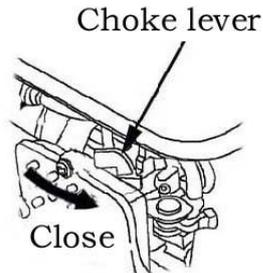

Fig. 7
2. Push the choke lever to the CLOSE position (Fig. 7).